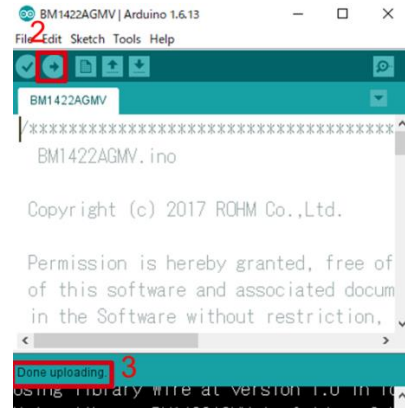

Figure 5. Uploading
2. Write the program by pressing right arrow button for upload (Figure 5)
3. Wait for the message "Done uploading" (Figure 5)